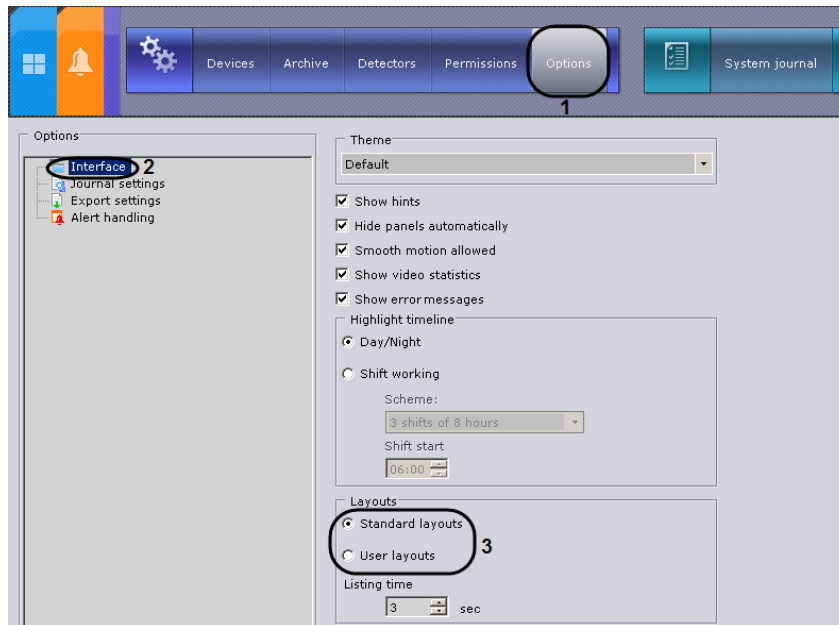

Fig. 6.6—1 Selecting a Layouts ribbon work mode
- Go to **System settings**⇒**Options**⇒**Interface** (Fig. 6.6—1, 1-2).
2. Select the layout type in the **Layouts** configuration group (see Fig. 6.6—1, 3).